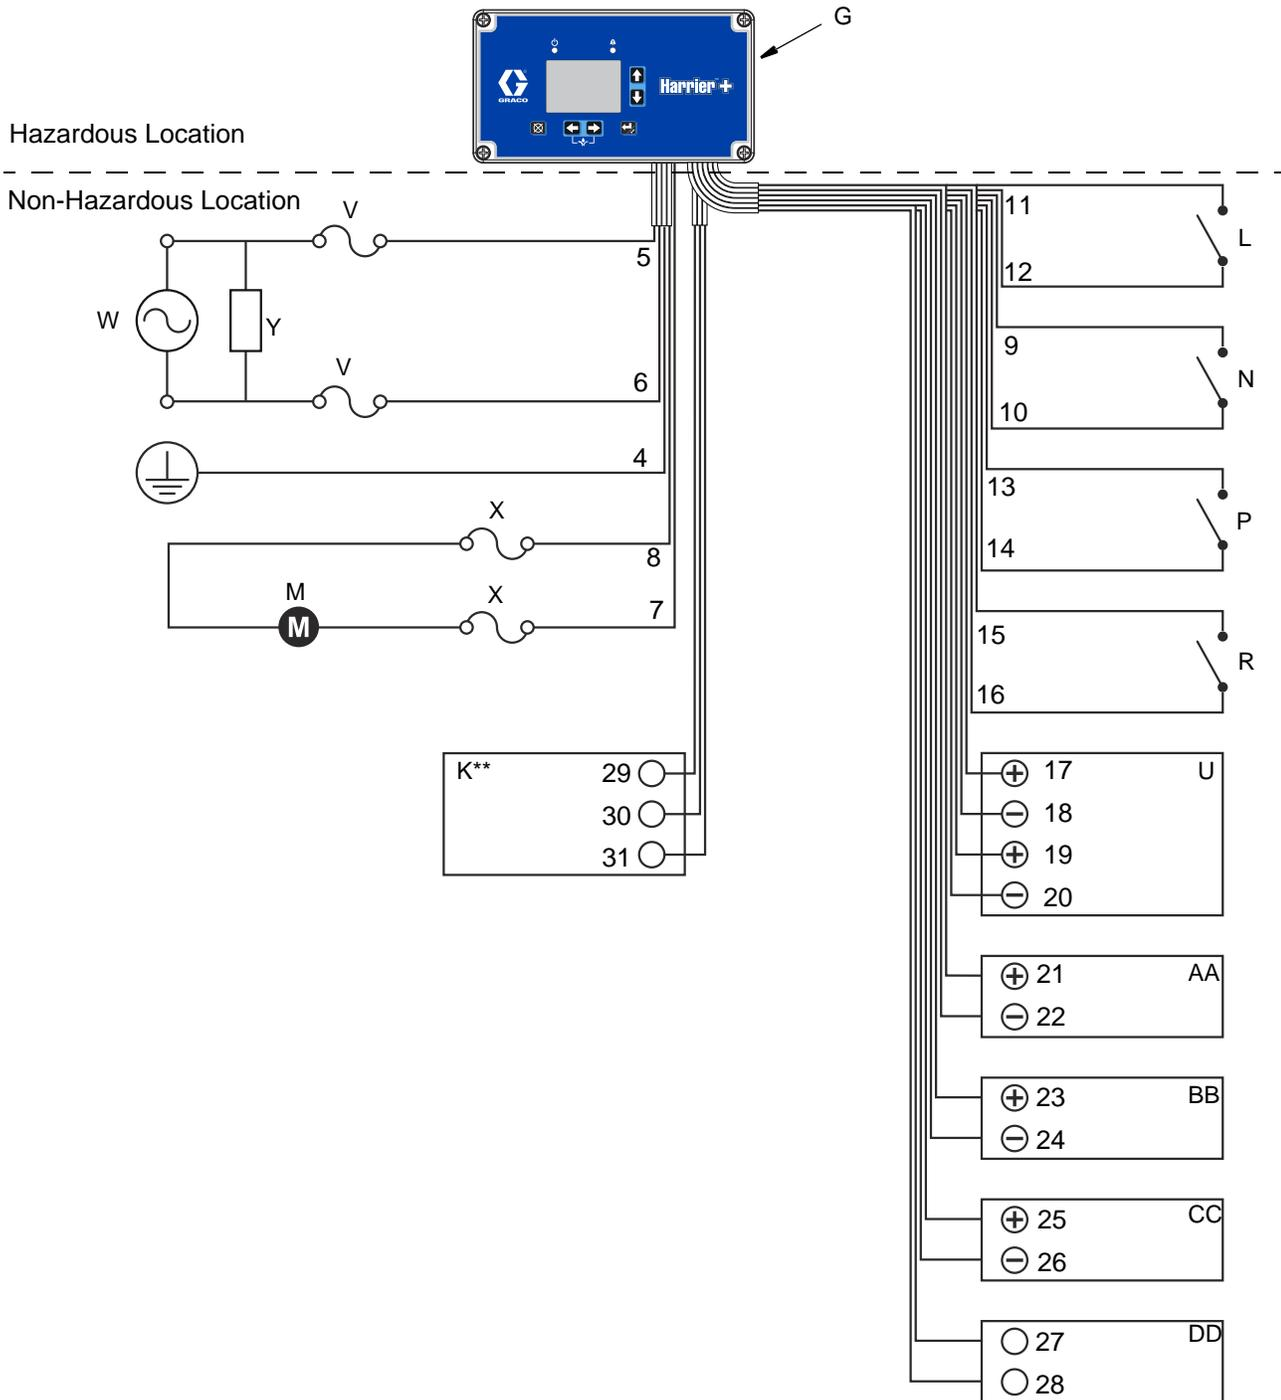

FIG. 4: Typical 240 VAC Installation
FIG. 4 is an example of 240 VAC installation. Your installation may differ from what is shown here. The Harrier+ controller (G), with wiring, is supplied by Graco. All other components are supplied by the customer. Contact your Graco distributor for assistance in planning a system to suit your needs.